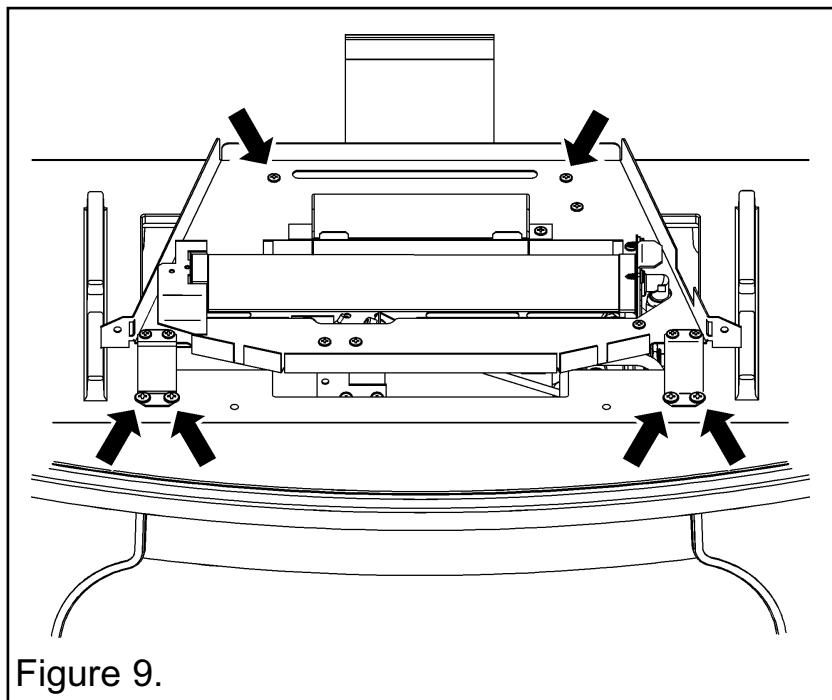

Figure 9.
5. The burner assembly should be found assembled inside the stove body as in figure 9.